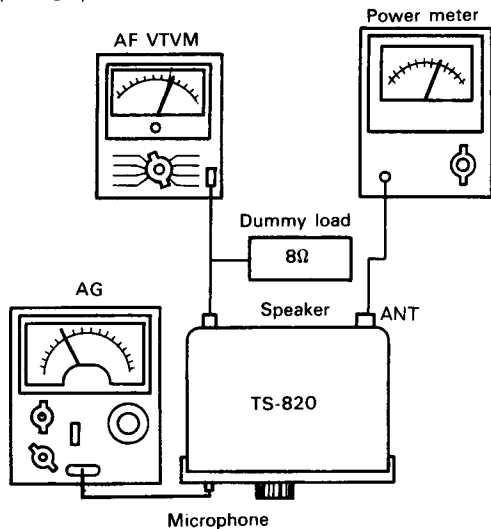

Fig. 38 Adjustment of monitor level
- 1) If Fig. 38, make adjustment until full power is obtained at 14.175 MHz, CW, and set the MODE switch to SSB \bar{e} (or LSB).